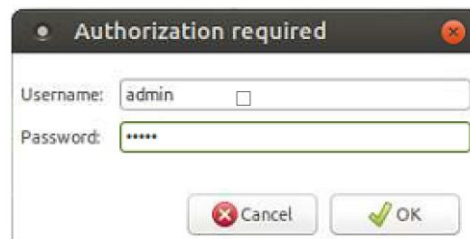

Figure 44: User Login Dialog
- b. Enter the password and username (both are **admin**) and click **OK**. Figure 44.